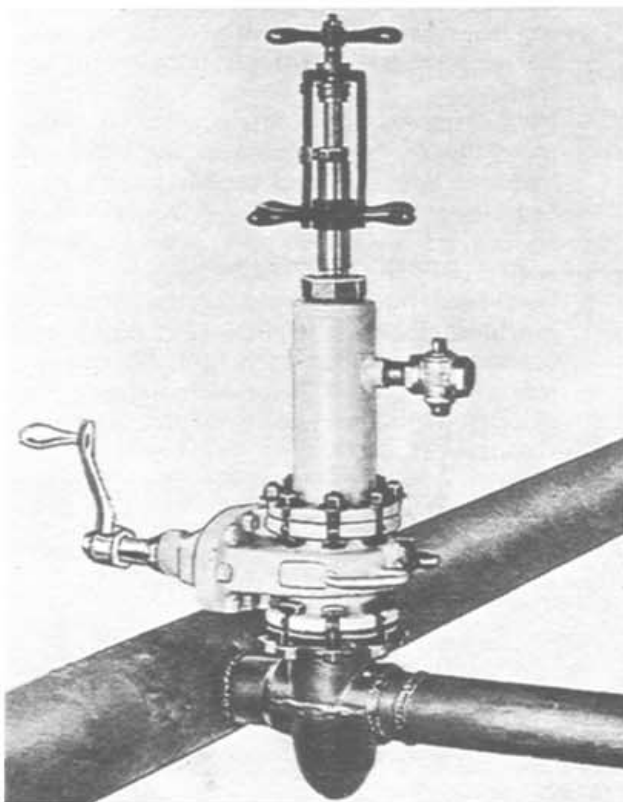

FIGURE 50
### K—ATTACH LATERAL PIPING—Figure 50
11. Advance inserting bar (hold inserting bar down with yoke if desired) and screw completion plug into fitting securely by rotating inserting bar clockwise. See **Figure 50**.